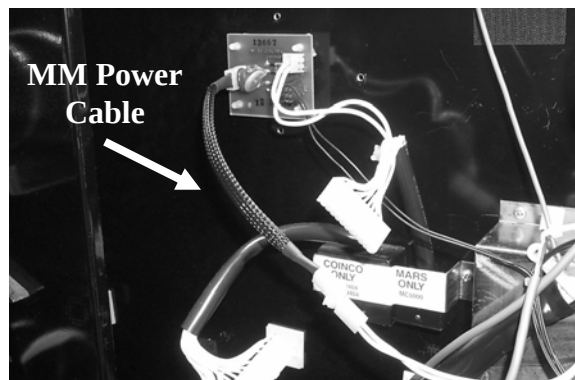

Figure 8
10. Referring to figure 8, remove the cover of the High Voltage PCB. Next, locate cable originally connected to P1 (extending from the Jones plug). This is a 3 pin connector with pin 2 keyed. Connect 11-0188-21 to this cable with the male pins and the other end into P1 of the small PCB. You can now replace the cover to this PCB.